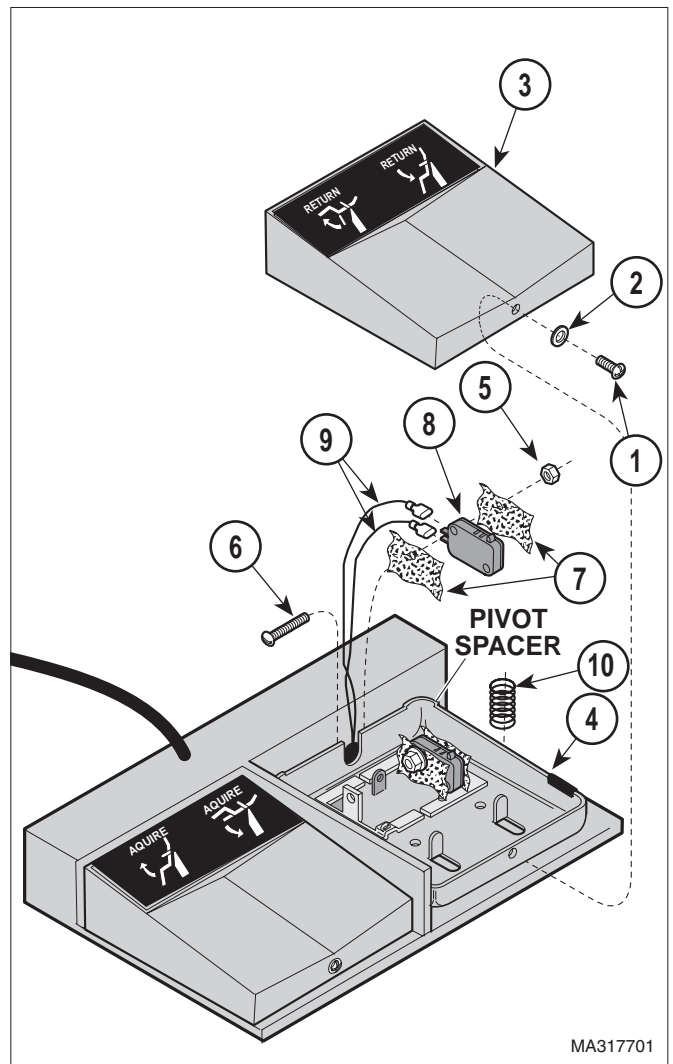

Figure 4-12. Typical Foot Pedal Footswitch Removal / Installation
- (1) Unplug chair power cord from wall outlet.
- (2) Remove screw (1, Figure 4-12), lockwasher (2), and pedal (3) from foot switch bracket (4).
- (3) Remove two locknuts (5), screws (6), two insulators (7), and footswitch (8) from footswitch bracket (4).
- (4) Tag and disconnect two or three wires (9) from terminals of footswitch (8). Remove footswitch.